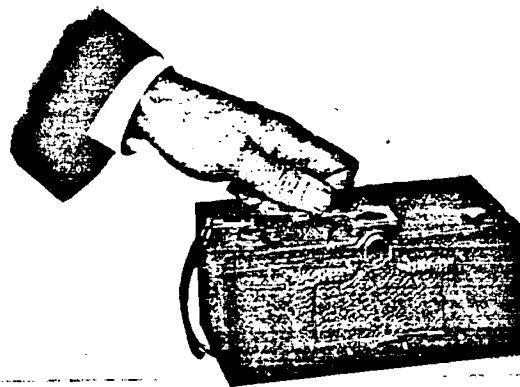

Fig. 1.
V. Close up back and sides of camera and snap loose end of handle into catch, reversing operation shown in Figs. 1 and 2. From the time the gummed slip is cut on cartridge until the paper has been threaded up ready for use, care must be taken not to let the duplex paper loosen on the spool, otherwise light will be admitted and the film ruined.
VI. Having replaced back and sides of Kodak, turn the winding key slowly to the left for about fifteen turns until an index hand appears before the little red window in back of camera. This hand is a warning that you are approaching Fig. 1. Then turn the key very slowly until Fig. 1 appears before the red window.
I. Set the shutter by turning lever which lies back of the finder so that it points in the opposite direction to that in which the lens points. Unless the shutter has already been set this will simply mean that the lever is to be swung to the opposite side of semi-circle (Fig. 1) and the flap which covers lens may be left closed until shutter is set. It will be noted that in the plates at each end of
IV. Wind a new film into position by turning to the left on key until the Figure. 1 or the letter A (as the case may be.) appears before the red window in back of camera.